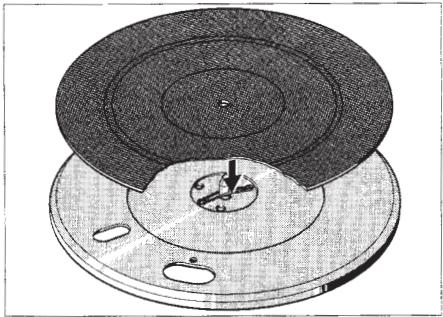

Fig. 1
- Fit the platter and depress the locking mechanism in its centre until it engages in the groove of the platter spindle (Fig. 1). Place the platter mat in position.